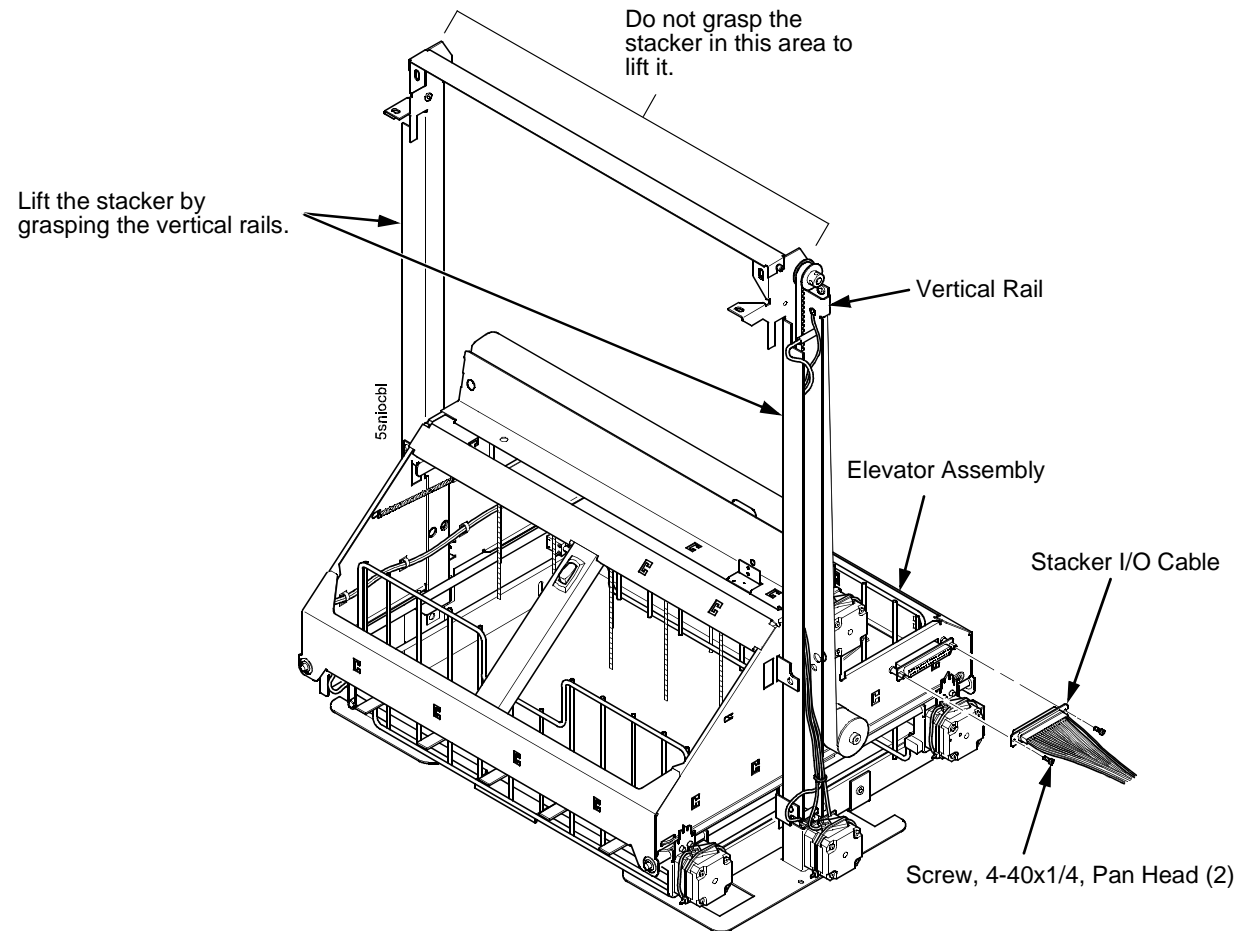

Figure 82. This figure shows where to disconnect the stacker I/O cable from the stacker elevator.
14. Remove the two 4-40 x 1/4 inch screws securing the elevator I/O cable to the elevator assembly and disconnect the stacker I/O cable. (Figure 82.)